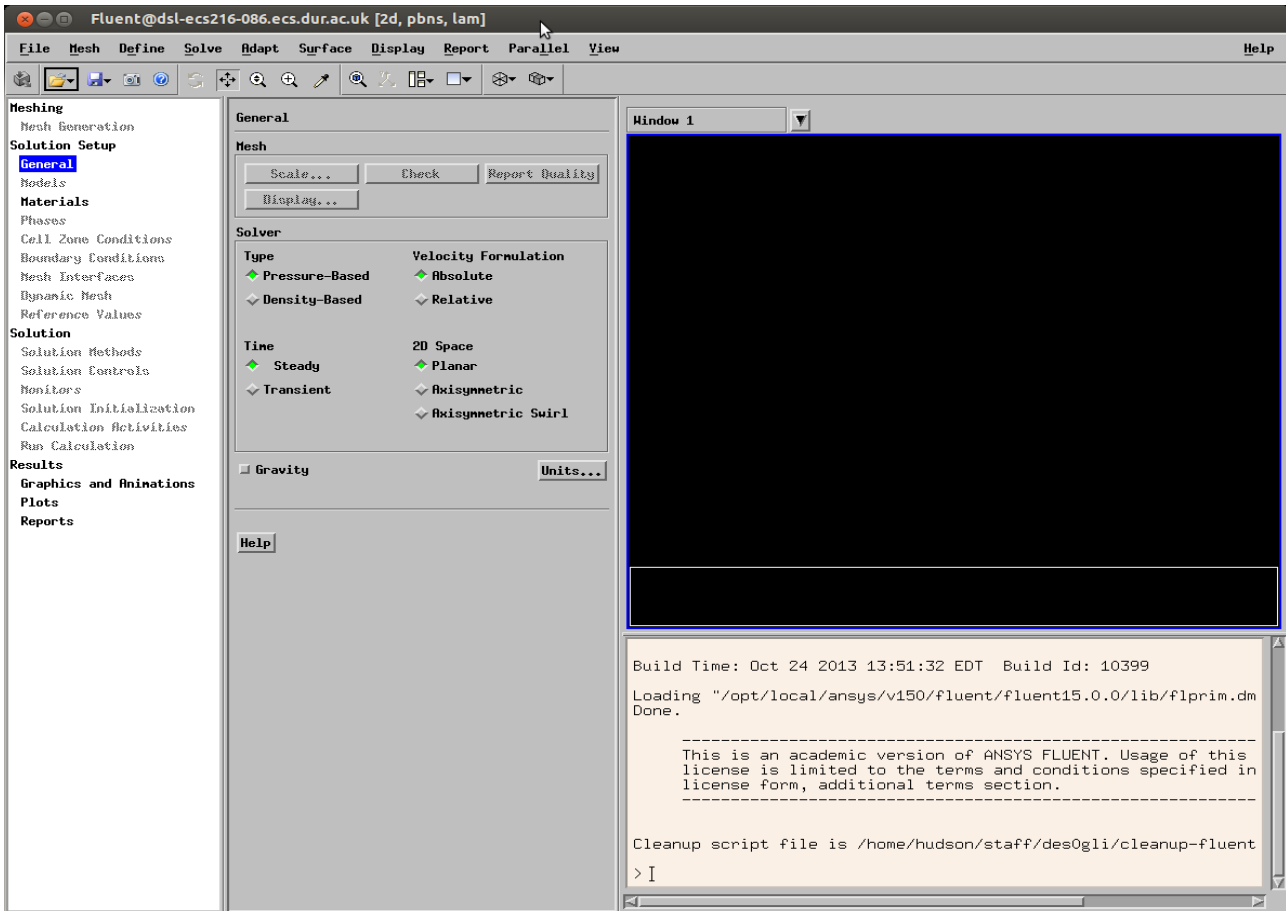

Figure 1: General View of Fluent 15
- After a short while something like Figure 1 will pop up.